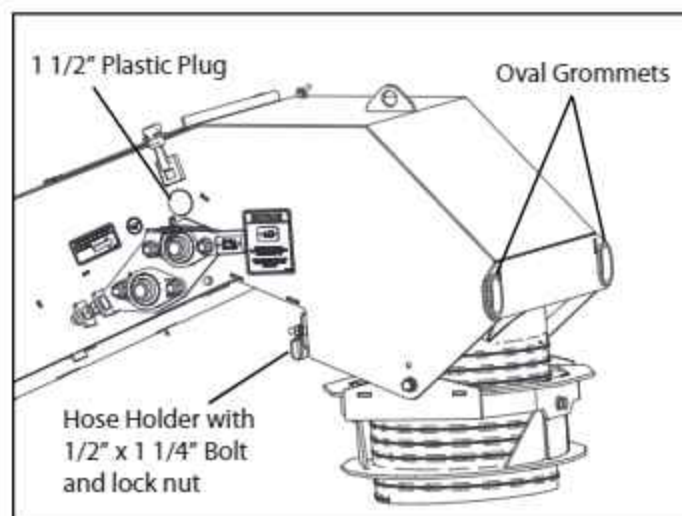

FIG. 3-81. Swing Tube Grommets
6. Install the two Oval Grommets in the Swing Tube Discharge as shown in Fig. 3-81.